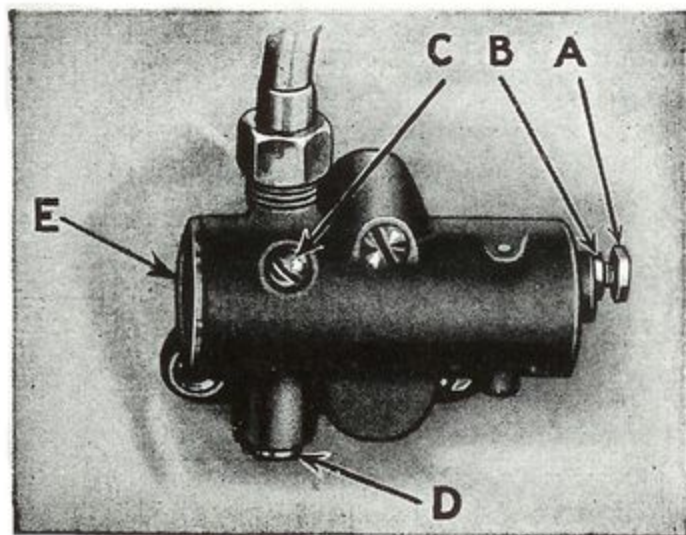

Figure 27
If for any good reason it is necessary to alter the adjustment of the oil flow, loosen lock nut "B", (Fig. 27), and turn screw "A" to the right (IN) to decrease the oil supply, and to the left (OUT) to increase the oil supply. Turn this screw only one-half a turn at a time. After any adjustments, be sure and tighten the lock nut "B". When the screw "A" is all the way in against "B" the oiler will not pump.